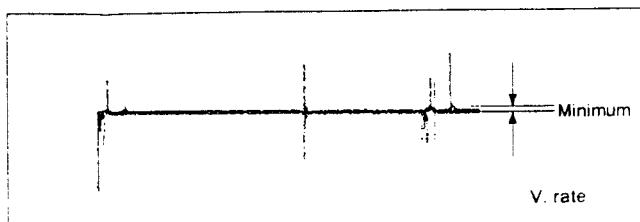

Fig. 3-1-11 YNR level
- If necessary, replace R18 with the variable chip resistor 4822 101 30673 and adjust it for minimum DC step difference, as in Fig. 3-1-11.